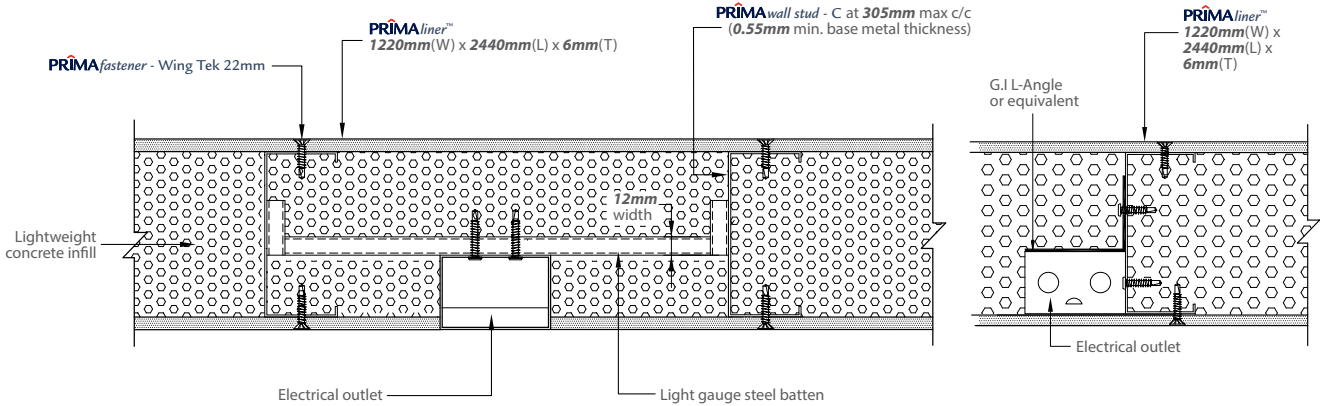

Figure 12: Electrical outlet in between section C-C and electrical outlet attached to stud
- b. Electrical socket can be reinforced with either light gauge steel batten or L-angle. Refer to Figure 12 for electrical outlet in between section C-C using light gauge steel batten and electrical outlet attached to stud using L-angle.